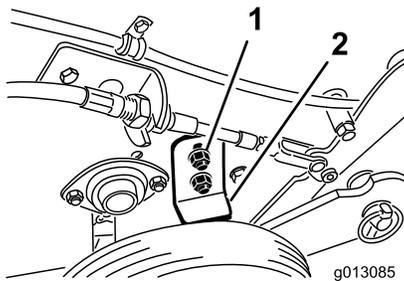

Figure 17
2. Loosen the nuts securing the wheel stop on the right side of the machine (Figure 17).